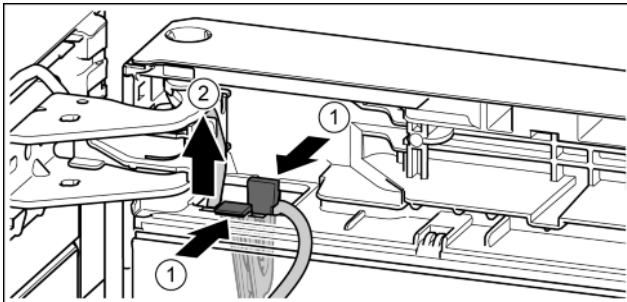

Fig. 22
- ▶ Press the lug. Fig. 22 (1)
- ▶ Remove the cable holder with its cable. Fig. 22 (2)